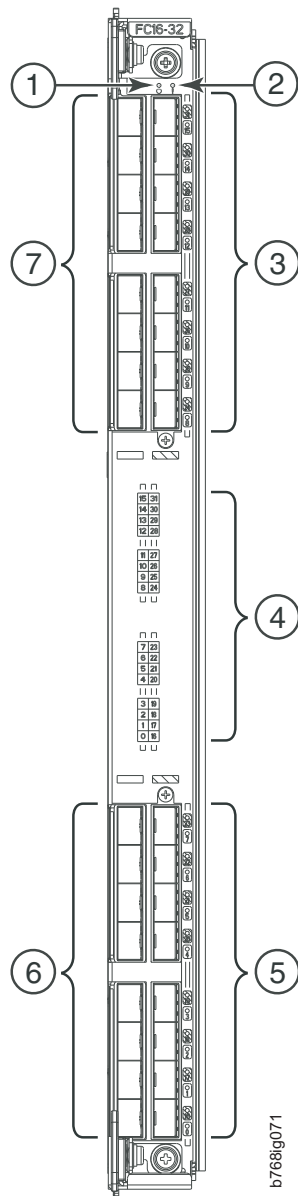

Figure 40. FC16-32 port blade
- Figure 40 shows an FC16-32 port blade